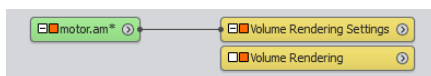

Figure 3.29: Volume Rendering network
- Attach a *Volume Rendering* to the data: right-click on the green data icon appeared in the Project View, click on *Volume Rendering* and press on *Create*, see Figure 3.29